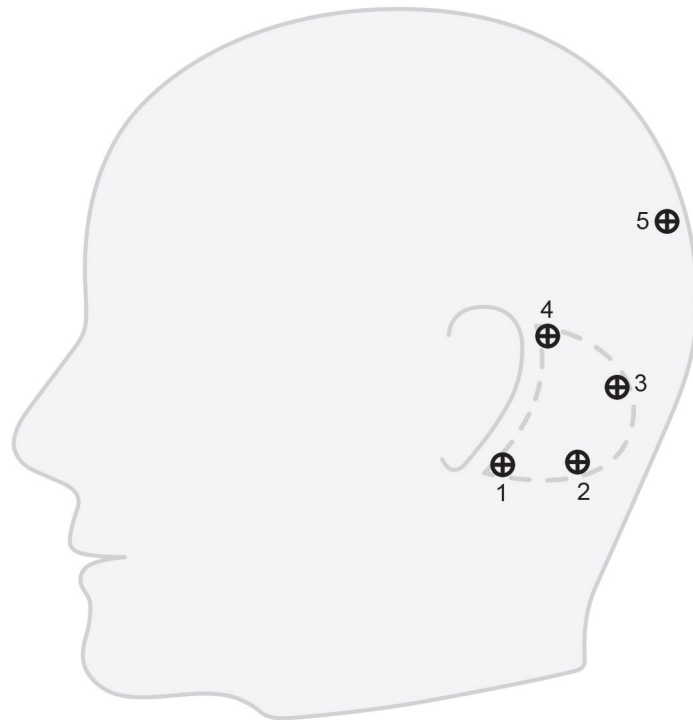

Figure 73 Recommended bone screw placement for lateral skull surgery
1. Place these screws at the end of a preceding surgery when entry to the middle ear is exposed (Figure 73).